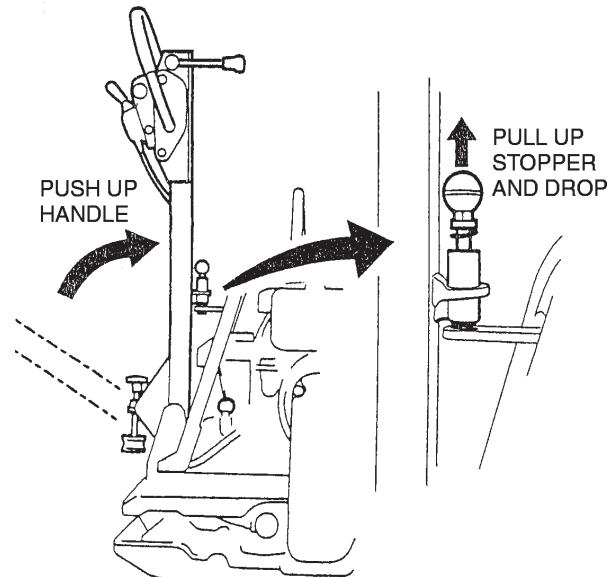

Figure 17. Stowing the Handle
- Push up the handle (Figure 17).